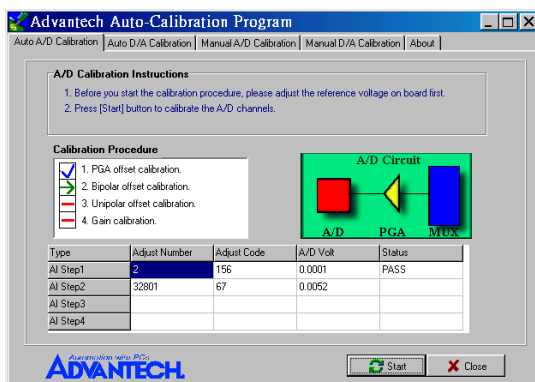

Figure 5-8: A/D Calibration Procedure 2
Step 6: The second A/D calibration procedure is enabled (Fig. 5-8)